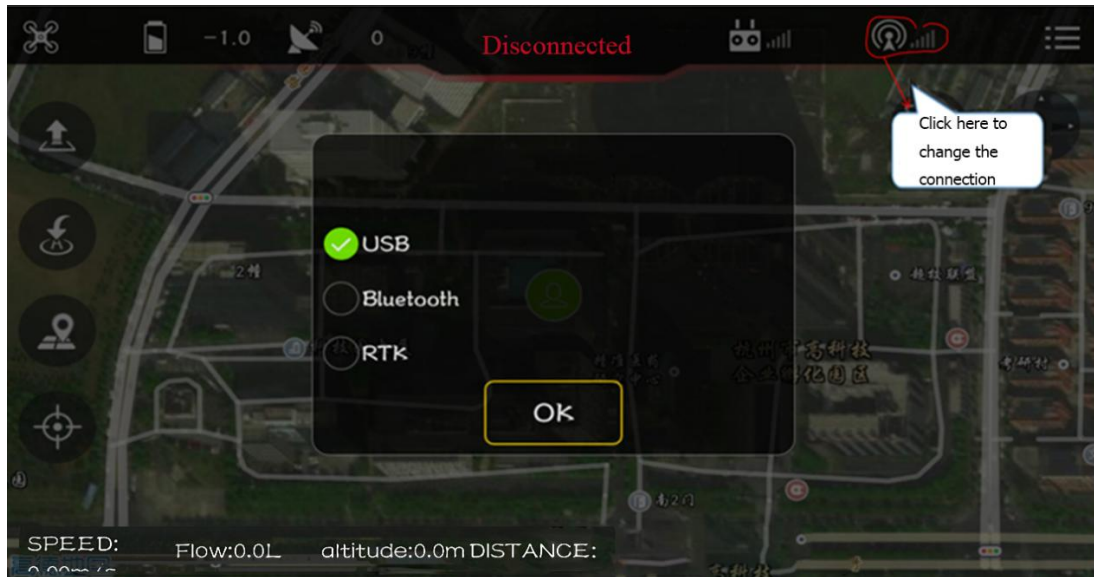

Figure 4-9
1. Connect the USB and open the IFLY APP, as shown in Figure 4-9: